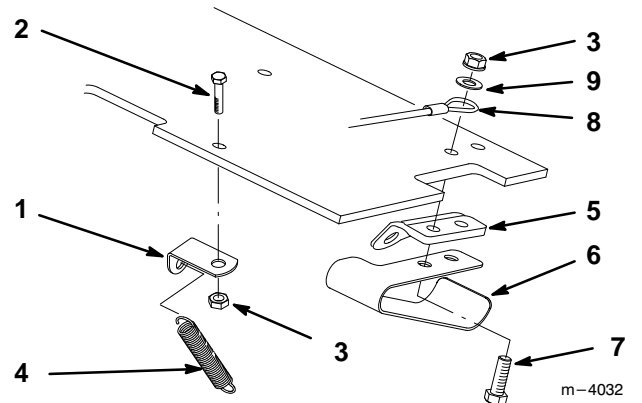

Figure 1
- 1 Remove the existing spring and spring bracket from below the traction unit control plate (Fig. 1). Save the spring bracket for use on the chute. Discard spring–long.
- 2 Attach the new, long spring bracket below the traction unit control plate with the existing bolt in the front left hole, down from the top, and secure it with the existing locknut (Fig. 1). Hook the short chute spring into the bracket.
- 3 Remove the existing hardware from the left brake bracket below the traction unit control plate (Fig. 1).
- 4 Attach the guard, below the brake bracket, with a new 3/8–16 x 1-1/4" (32 mm) bolt in the front hole. Include the cable and secure with the existing washer and locknut above the control plate. Use the existing rear bolt and locknut (Fig. 1).